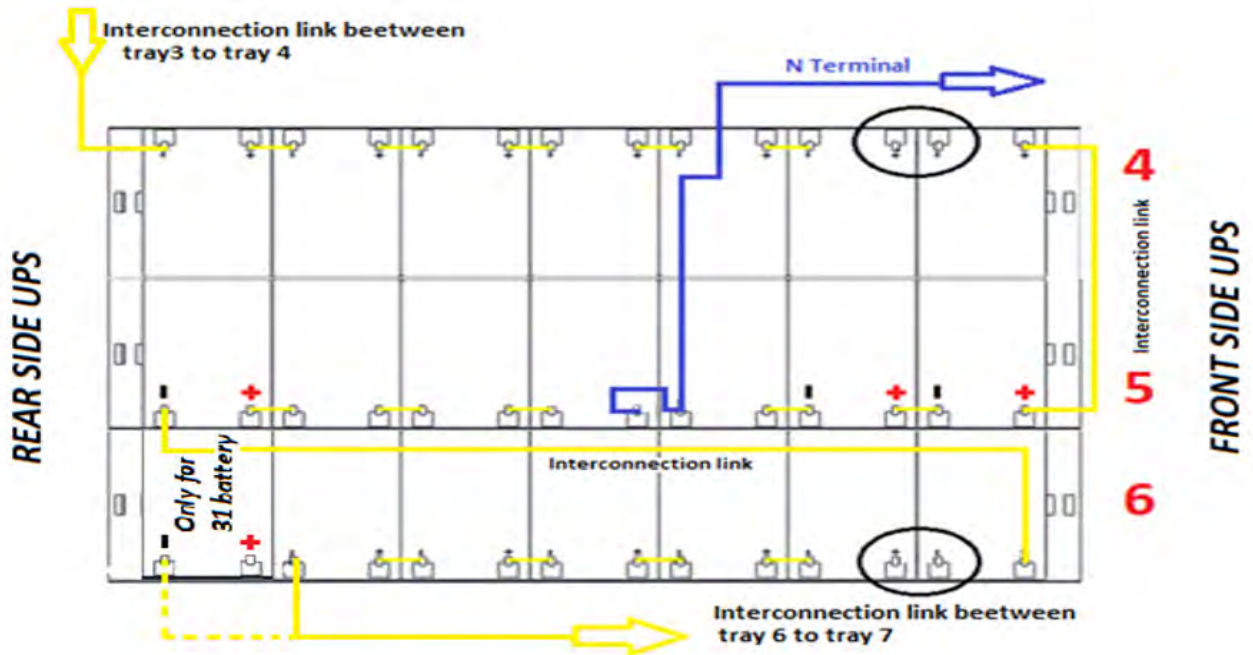

Figure 34 - View from above Level No.2 with battery connections
8) Wire level no. 2 as indicated in Figure 34. **Leave the circled jumpers disconnected.**